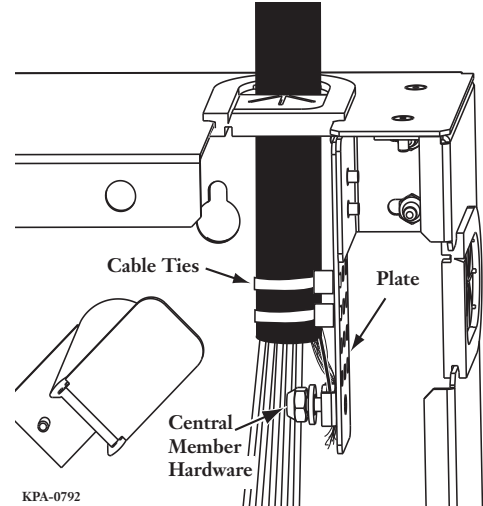

Figure 7 — Secure Central Member
- Step 1:** Attach the strain-relief plate to the strain-relief bracket using two screws per bracket (Figure 7).